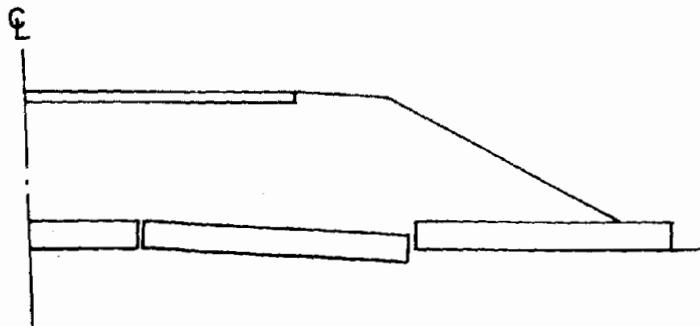

Figure 12. Rigid pipe in unstable area.
- e. Do not use rigid pipe in unstable areas (figure 12).